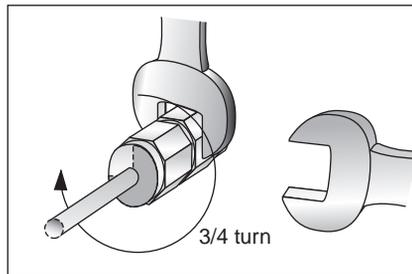

Figure 3-3. Tightening Swagelok Fittings
7. While holding the inlet body tightly with a backup wrench, tighten the nut about a 3/4 turn past finger-tight, as shown in Figure 3-3.